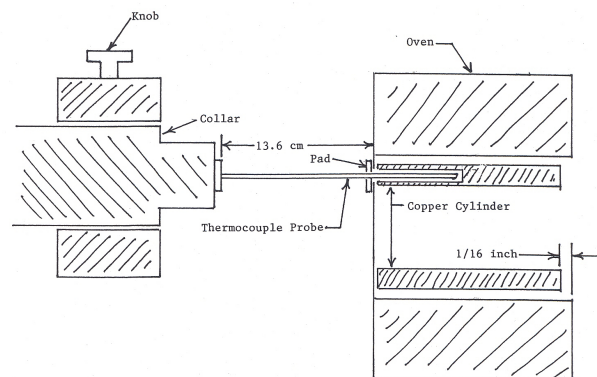

Figure 5: Oven and thermocouple assembly (not to scale)
The tube has a small amount of liquid mercury in it. For the mercury pressure to be sufficient it is necessary to heat the tube to 170-200 deg C. There is an oven into which the tube is inserted. Inside the oven is a cylindrical copper tube to provide temperature uniformity. The Franck-Hertz tube goes inside the copper tube. A slide mechanism is provided to hold the tube and to insert the tube into the oven. A thermocouple in the form of a long thin tube sticks through a hole in the oven wall and goes all the way into a blind hole in the copper tube. *It is important that the thermocouple probe go all the way into the hole in the wall of the copper tube. See Fig. 5.* If it does not, the oven will overheat the tube and ruin it.
3. It is important that the thermocouple be fully inserted in a blind hole in the copper cylinder. Refer to Fig. 5. The copper cylinder should be fully inserted into the oven. If this is so its end will be recessed about 1/16th (2.5 mm) inch from the open end of the oven. Although not shown this way in Fig. 5, the collar on the thermocouple holder should be about 2 mm from the face of the thermocouple holder facing the oven. The distance between the closed face of the oven and the hex nut on the thermocouple holder should be about 13.6 cm. NOTE: If the thermocouple is removed from the apparatus, it is all too easy not to get it back right. The problem is that the copper cylinder is loose and not only slides in and out of the oven but it also rotates. If it rotates slightly, the blind hole for the thermocouple does not line up with the hole for the thermocouple in the wall of the oven. Then the thermocouple probe “bottoms” on the end of the copper cylinder and is not inserted in the blind hole. The temperature is misread, the oven overheats, and the tube probably ruined (BIG BUCKS).